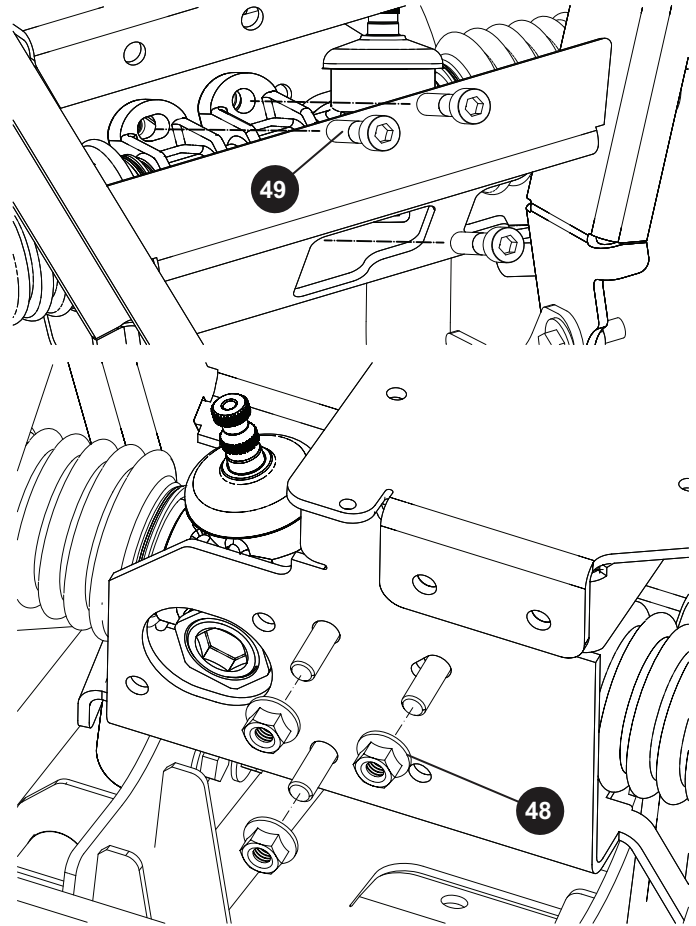

Fig. 12 Steering Rack Removal
5. Remove the three bolts (49) and nuts (48) attaching the steering rack assembly to the frame (Ref. Fig. 12).